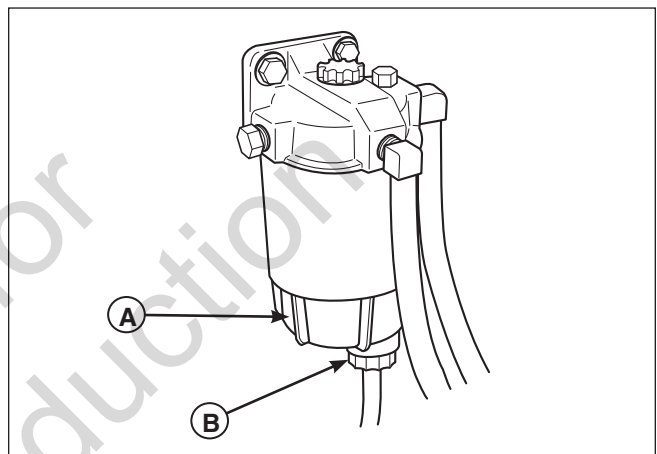

Figure 14. Drain Fuel Filter
3. Place a container under the fuel filter tube and turn the drain valve (B, Figure 14) approximately 1 turn.